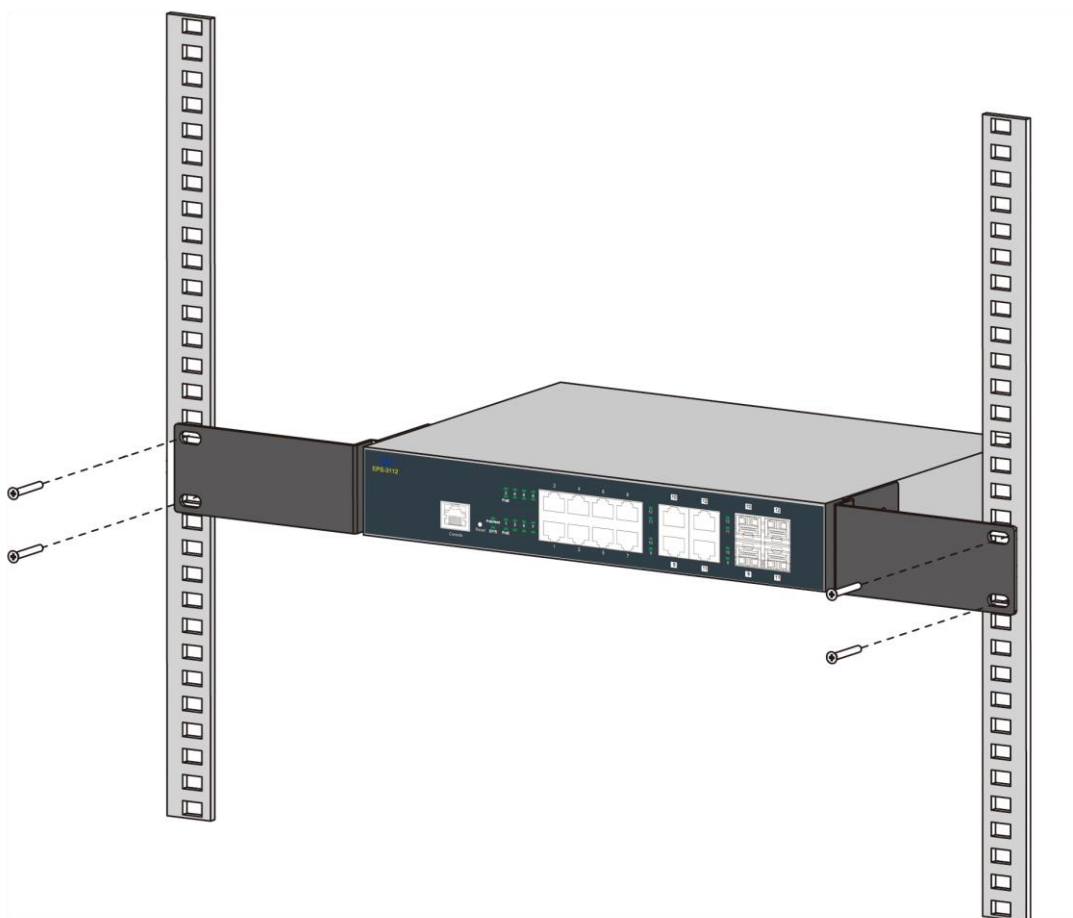

Figure 2-2. EPS-3112 Switch Rack-mounting
- Step 4.** Align the mounting holes in the brackets with the desired holes in the rack, and insert screws through each bracket and into the rack. (See Figure 2-2)